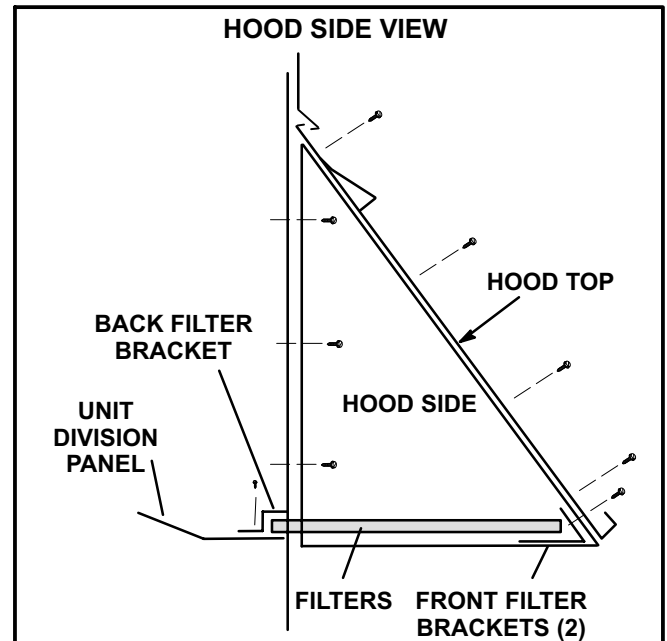

FIGURE 16
- 6- Install back filter bracket on unit division panel as shown in figure 16.